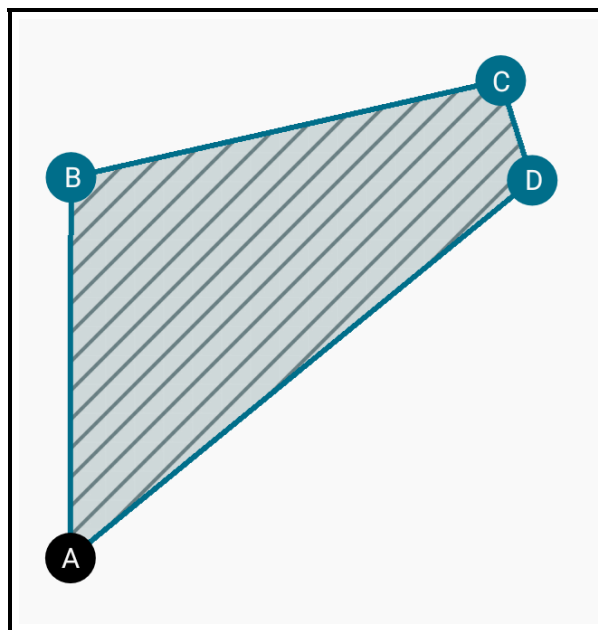

**Fig. 4.6.16:** Example for a field with specific corner points
When selecting *SET CORNER POINTS* you set the corner points of the field (at least three) by using the GNSS. A field can have different and irregular shapes (triangle, square, octagon, ...), see Fig. 4.6.16. Place the GPS antenna above the first corner point (A). Tap *ADD CORNER POINTS*, then in the dialog, tap *SET POSITION* and finally, tap *SET*. Repeat this procedure for the remaining corner points (B, C, ...). Proceed clockwise. Finish creating a field contour by tapping *CREATE CONTOUR*, see 4.6.16.